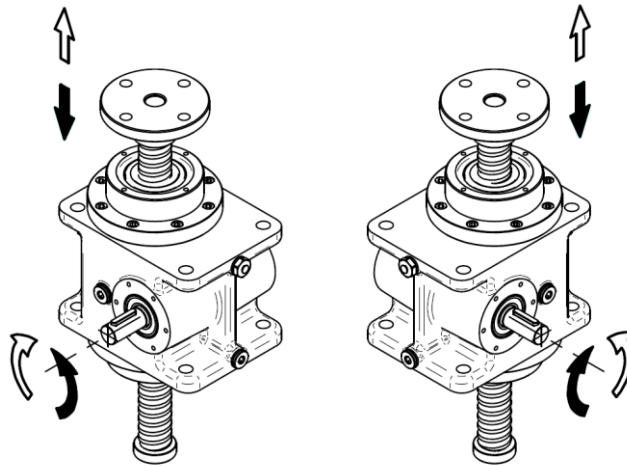

Figure 6.12 –Screw jack shifting directions
- If the length of the screw jack have to be changed (ball screw more retracted or extended) during installation, rotate the input shaft in proper direction (see Fig. 6.12).
- In case of screw jack without anti-rotation device (AR), it is possible to manually screw/unscrew the ball screw to change the length of the screw jack.
- In case of screw jack with bellow protection (B): DO NOT TWIST THE BELLOW.